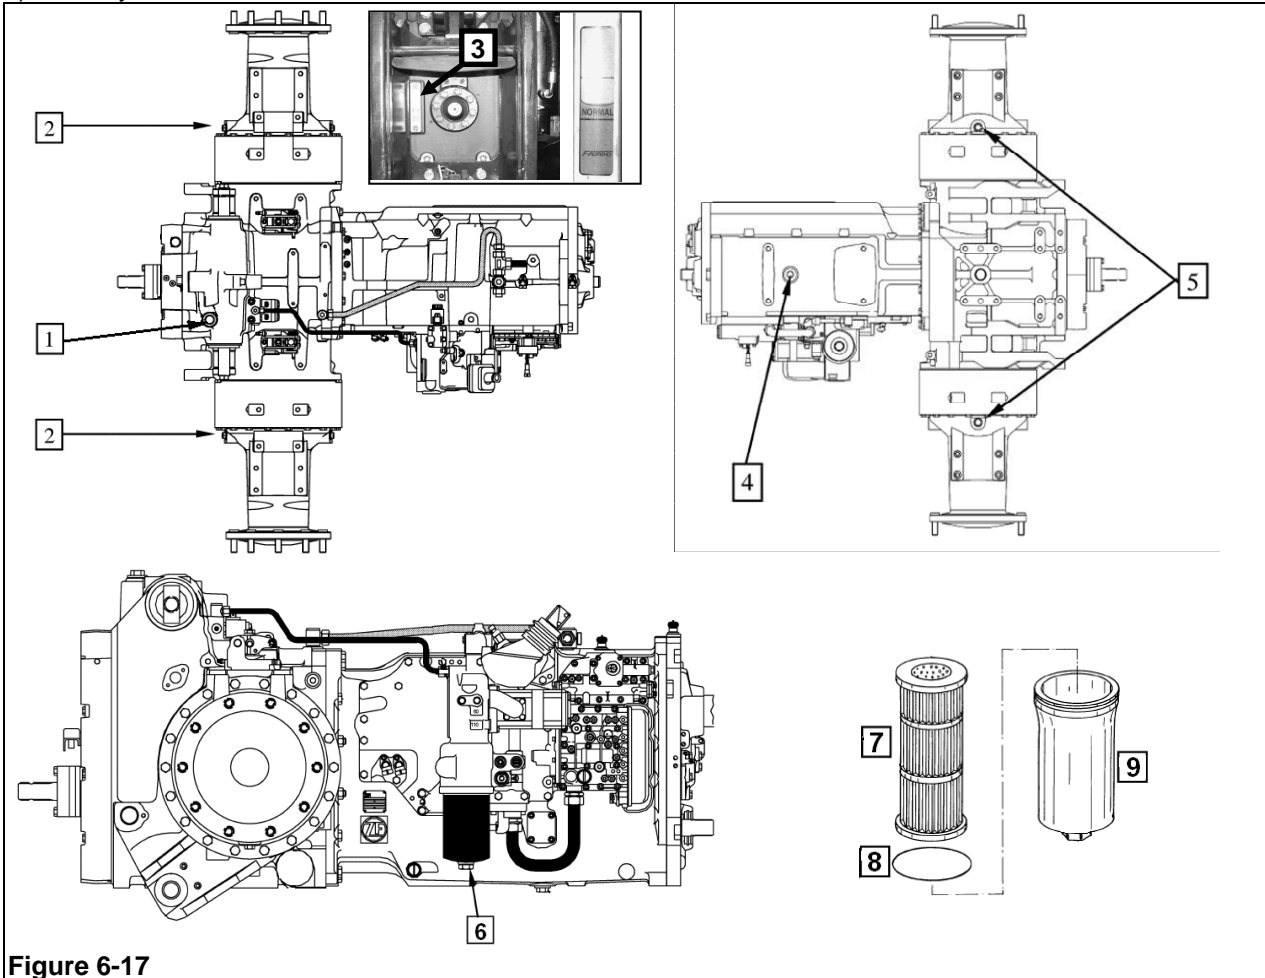

Figure 6-17
- unscrew inlet cap **1** (Figure 6-17) of oil to gearbox housing;